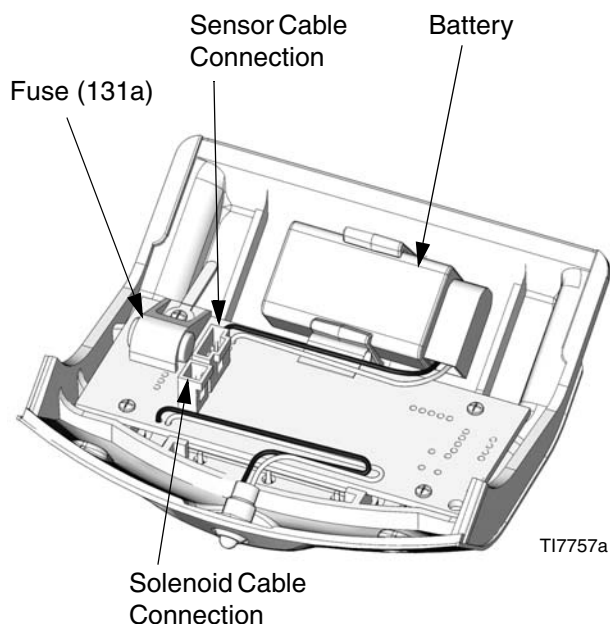

FIG. 5. DataTrak Battery and Fuse Location
2. Disconnect the runaway solenoid and sensor cables from the module board. See FIG. 5.
3. Take the DataTrak module (131) to a non-hazardous location.